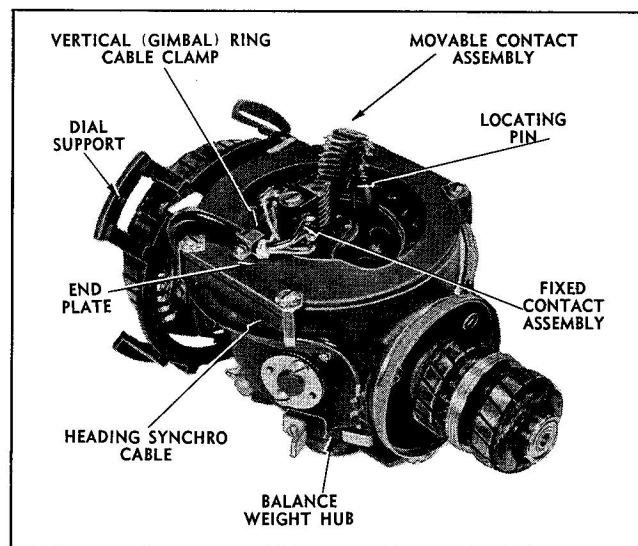

Figure 2-11 Vertical Ring Assembly Resting on Balance Weight Hub
(1) Remove the vertical ring and gyro assembly from the Holding Block T-100709 and set it down with the contact assembly up. (See figure 2-11.)
(2) Unscrew the binding head screw and spring washer from the movable contact assembly and carefully work the contact assembly from its locating pin. (See figure 2-11.) Also remove the spacer block from under the movable contact assembly.
(4) Remove the binding head screw and spring washer from the fixed contact assembly. (See figure 2-11.)
(5) Work the cable and the fixed contact assembly over to the side of the vertical ring, thereby clearing the end plate.
(6) Remove four binding head screws, lockwashers, and synchro cable clamps, and work loose the vertical ring end plate. (See figure 2-11.) Be careful not to damage the movable contact assembly.
(7) Remove the upper thrust ball resting in the recess in the gyro pivot (journal) and place it in a dustproof container.